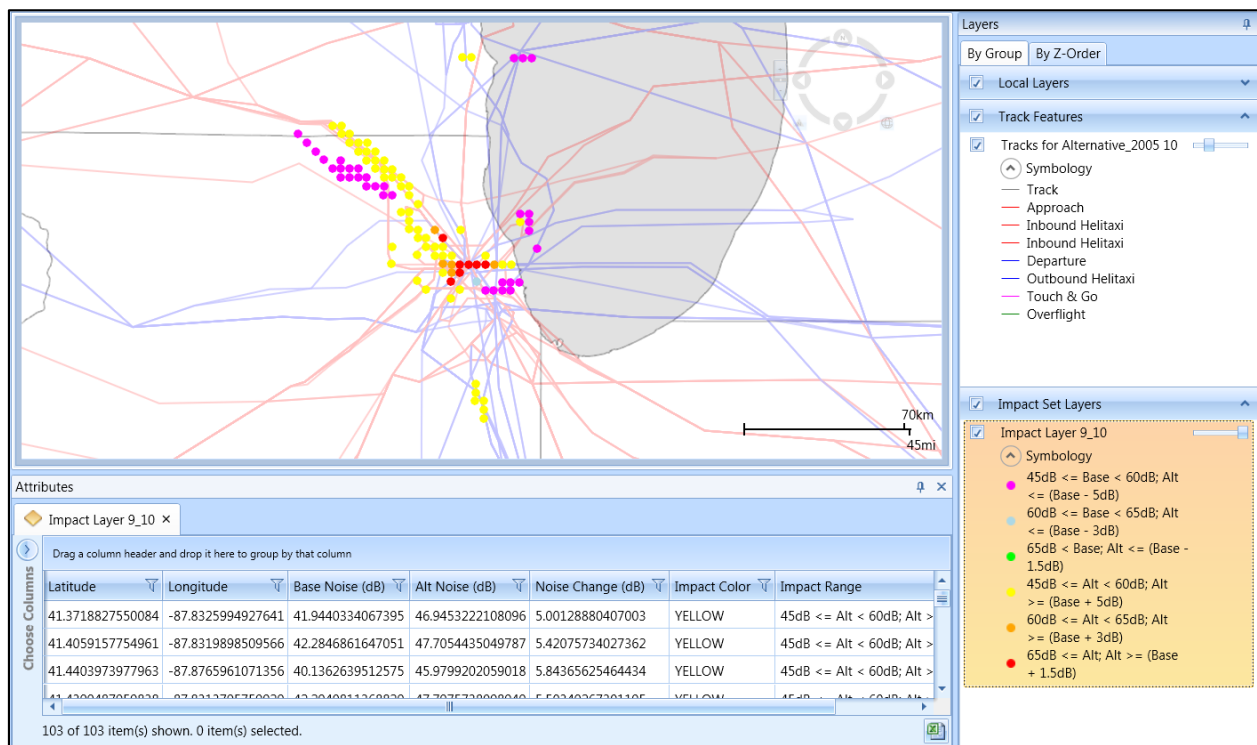

Figure 5-39 Sample Impact Set Layer with Attributes – shown with Tracks
3. The impact set layer is displayed on the map (Figure 5-39) and in the *Layers* manager.
The following attributes are available for impact set layers: latitude, longitude, base noise, alternative noise, change in noise, impact color, and impact range (Figure 5-39). See Appendix B.3 for descriptions of the attributes.